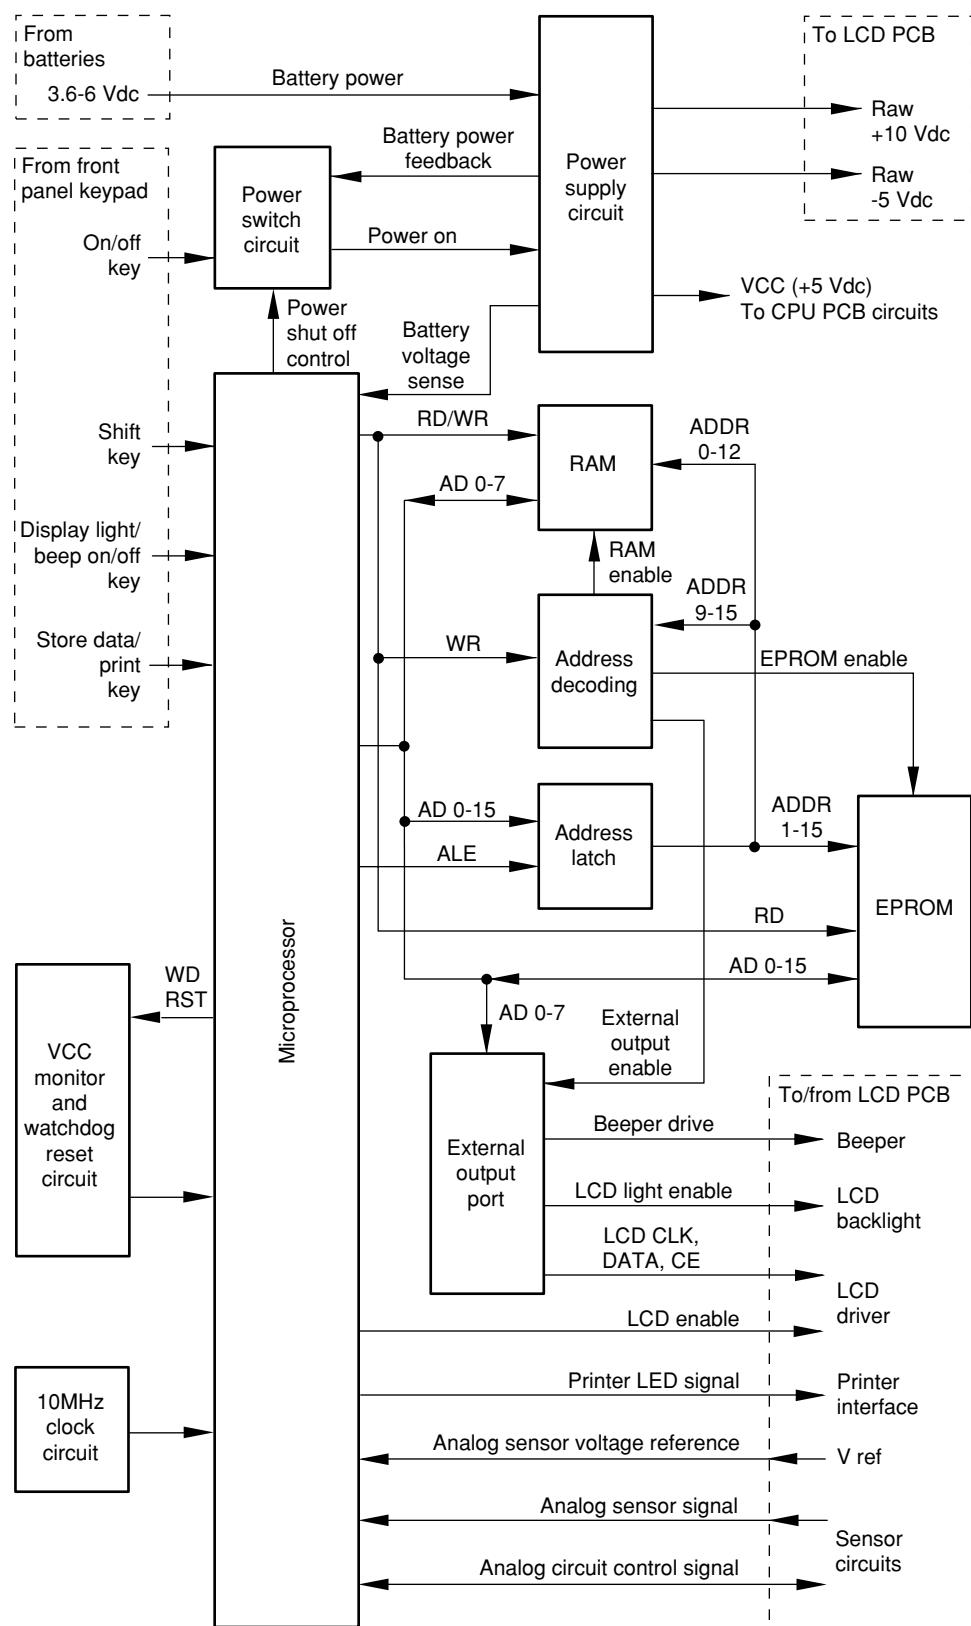

Figure S3-2: CPU PCB Block Diagram
- The CPU PCB block diagram (Figure S3-2) and schematic diagram (Figure S4-3).
Refer to Figure S3-2 for the CPU PCB block diagram and to Figure S4-3 for the CPU PCB schematic diagram in the following description. The CPU PCB hardware and related circuitry, which is illustrated in the following block diagram, includes the following subsystems: